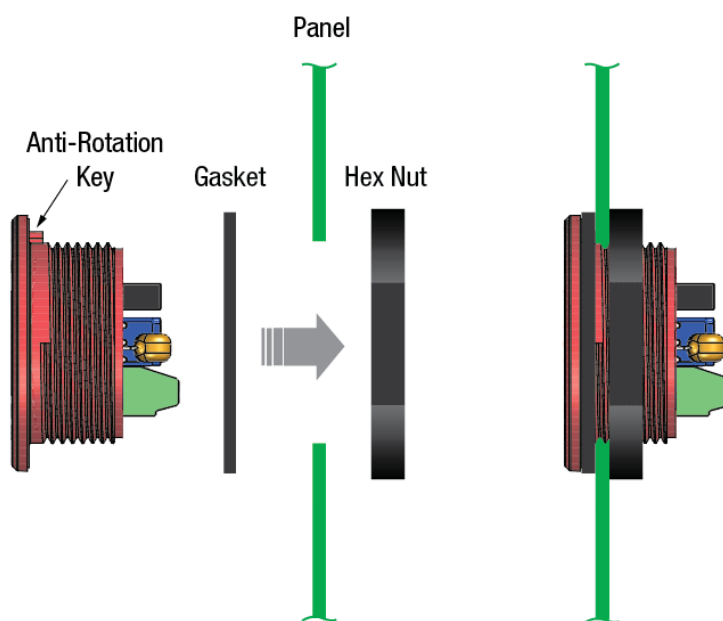

Figure 2. Panel Installation
- Panel Installation:** Other than the factory-supply thermistor probe connected to TB2, all electrical connections to DMR20-1-TMP must be made after the unit is securely attached to the panel, and with its DC supply input de-energized (off). In high-vibration environments, adequate strain reliefs must be used on all wiring connected to TB1 and TB2. See Figure 2 for typical panel mounting details.